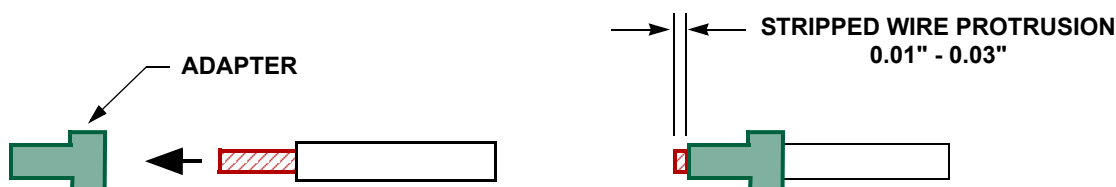

FIGURE 5 - USE OF ADAPTORS
| FIGURE 5 - USE OF ADAPTORS | 10 |
- 5.3.1 If the engineering drawing or wiring list specifies the use of a step down adapter, assemble the adapter onto the stripped end of the wire, or wire combination, before inserting the wire(s) into the splice. Ensure that the stripped wire protrudes through the end of the adaptor as shown in Figure 5.